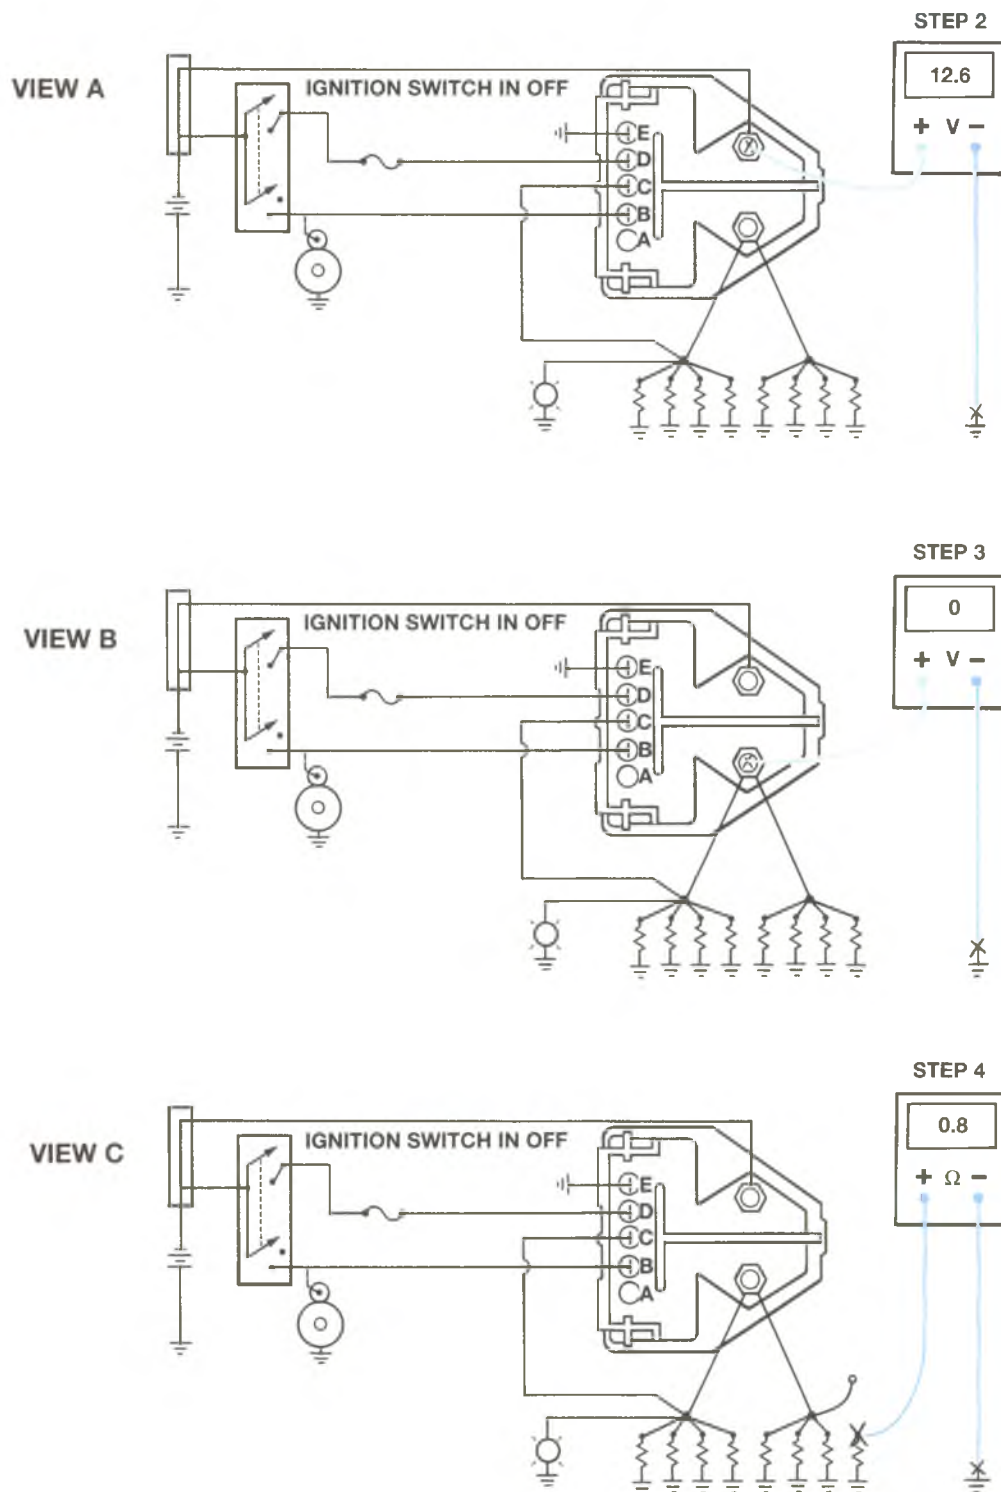

Figure 8-21, Glow Plug System Diagnosis – Secondary Checks (1)
2. Check voltage at the controller/relay terminal stud (battery side) (refer to Figure 8-21, view A):
3. Check voltage at the controller/relay terminal stud (glow plug side) (refer to Figure 8-21, view B):
4. Disconnect all glow plug wires and measure glow plug resistance (refer to Figure 8-21, view C):